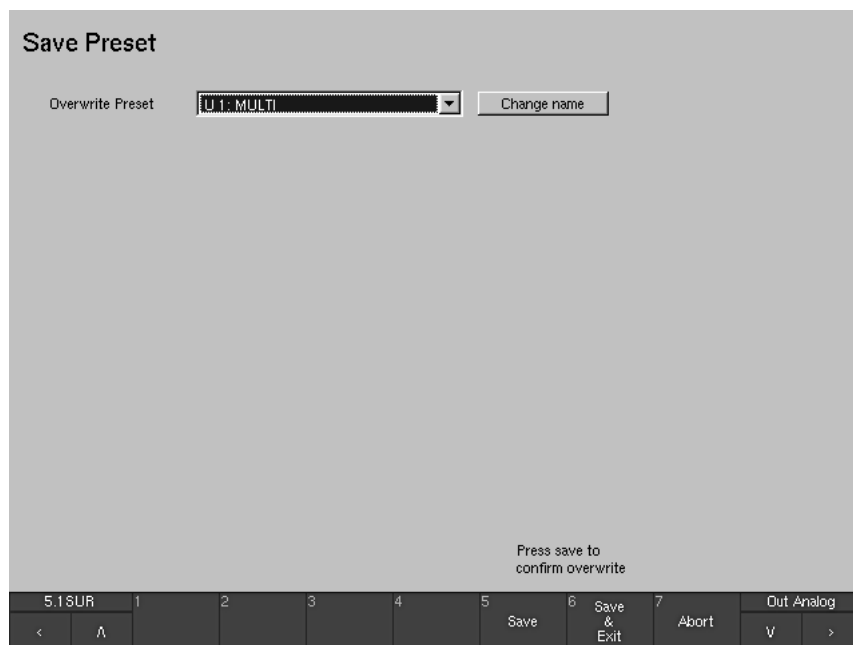

Fig. 3-10: The Save Preset screen
See Fig. 3-10
12. After you have made the desired changes, use the **Close** button of the menu page(s) accessed until the **Save Preset** dialog appears (see Fig. 3-10), giving you the choice to select one of the 7 User Presets to be overwritten with the new settings. Select one.
10. After you have made the desired changes, use the **Close** button of the menu page(s) accessed until the **Save Preset** dialog appears (see Fig. 3-10), giving you the choice to select one of the 7 User Presets to be overwritten with the new settings. Select one.